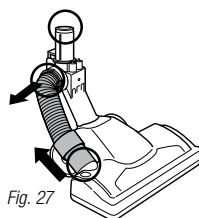

Fig. 27
- Detach the hose on the motorized floor brush at the top by squeezing the tabs together and pulling out, and at the bottom by pulling out the connector. Inspect inside the 3 holes. **(Fig. 27)**